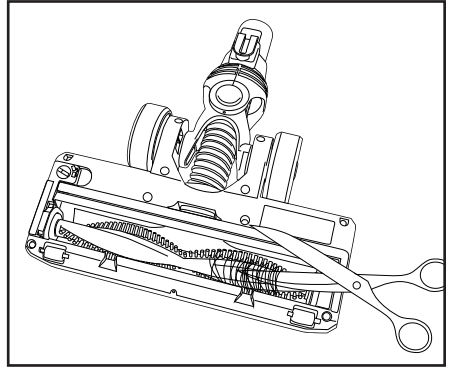

Fig. 1
2. Use scissors to remove any buildup entangled around the brushroll (Fig. 1).